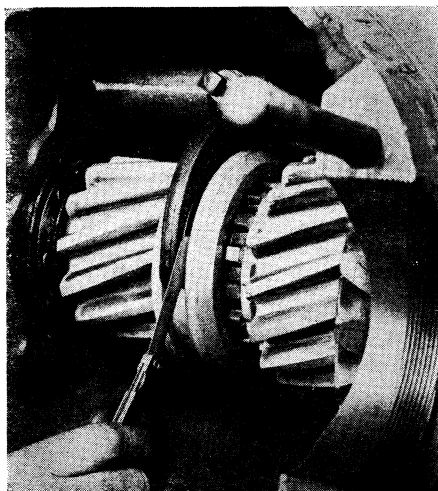

Fig. 43 Checking clearance of shift fork machined pads in shift collar with feeler gauge
- Check clearance of shift fork machined pads in shift collar with feeler gauge, Fig. 43. Clearance should not be less than .010" on each side of the fork in both fast and slow speed positions. When checking clearances, shift collar must be flush with end face of spur pinion in both fast and slow speed positions.
- Check clearance of shift fork machined pads in the shift collar with a feeler gauge, Fig. 43. The clearance must not be less than .010" on each side of the shift fork in both the fast and slow speed positions. When checking clearances, the shift collar must be flush with the end face of the spur pinion in both fast and slow speed positions.